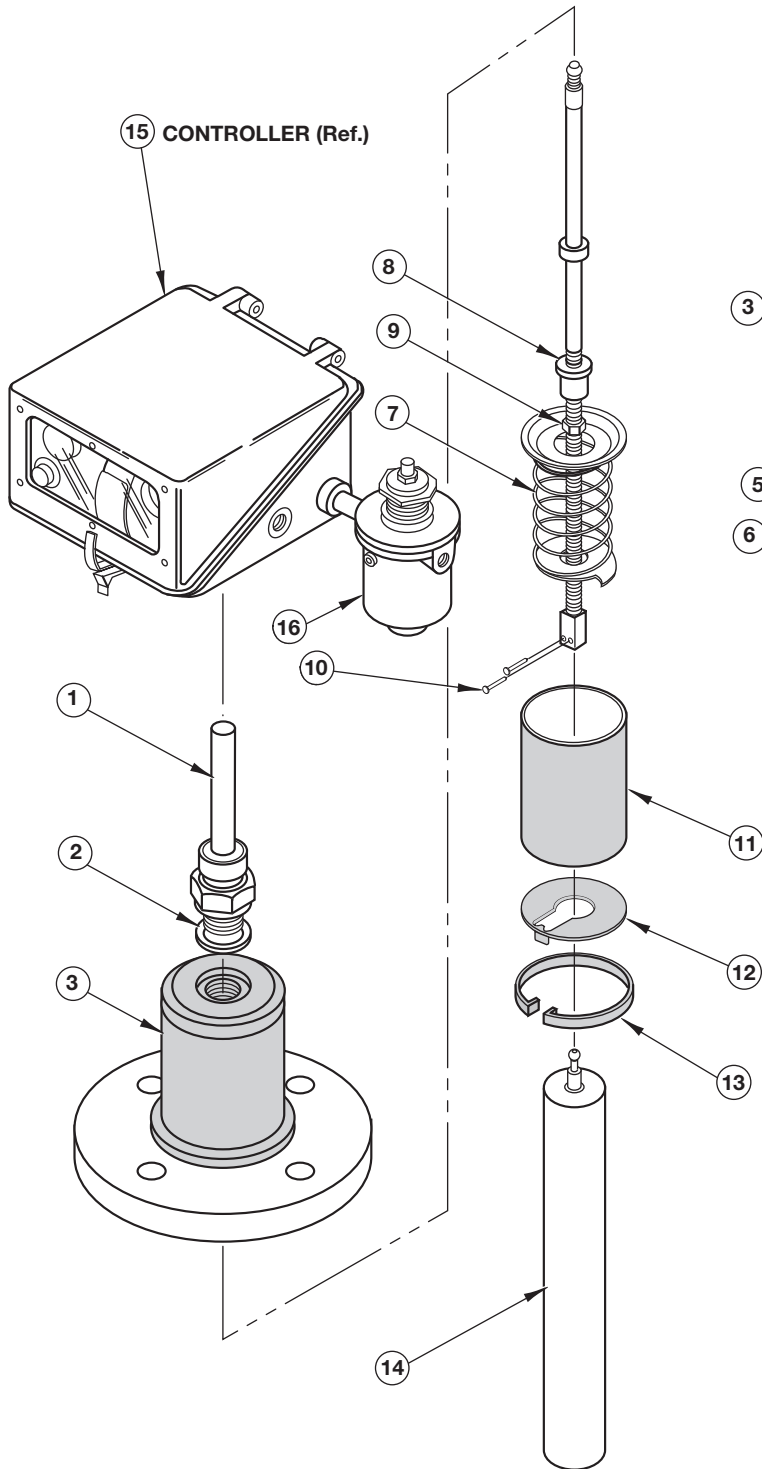

Figure 34
3.3.2 Series P61, P62, P63, P64, P65, P66, P71 and P72 Parts Identification (See Figures 34 & 35)
3.3.2.1 Series P61, P62, P63, P64, P65, P66, P71 and P72 (See Figures 34 & 35)
3.3.3 Series P51, P53 and P55 Parts Identification (See Figures 34 & 35)
3.3.3.1 Series P51, P53 and P55 (See Figures 34 & 35)